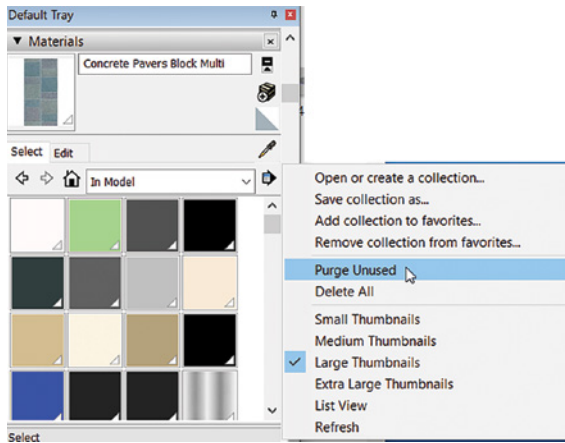
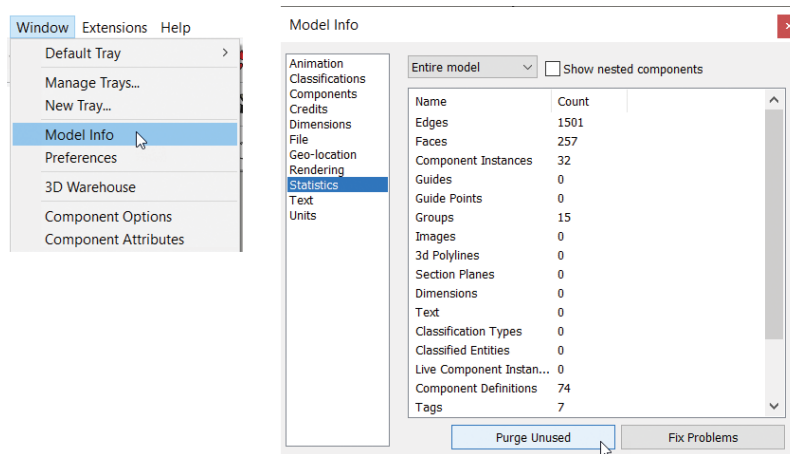

Figure 5-91: Purge unused materials, components, and styles.
Figure 5-92: Purge everything unused.
- ▶ Purge unused files. In the *Components*, *Materials*, and *Styles* trays, click *In Model* (the house icon) and then click the *Details* arrow. Choose *Purge Unused* (Figure 5-91). At **Window>Model Info>Statistics**, click the *Purge Unused* button at the bottom (Figure 5-92). This removes unused materials, components, and styles all at once, as well as unused tags and stale metadata accumulated during the modeling process.